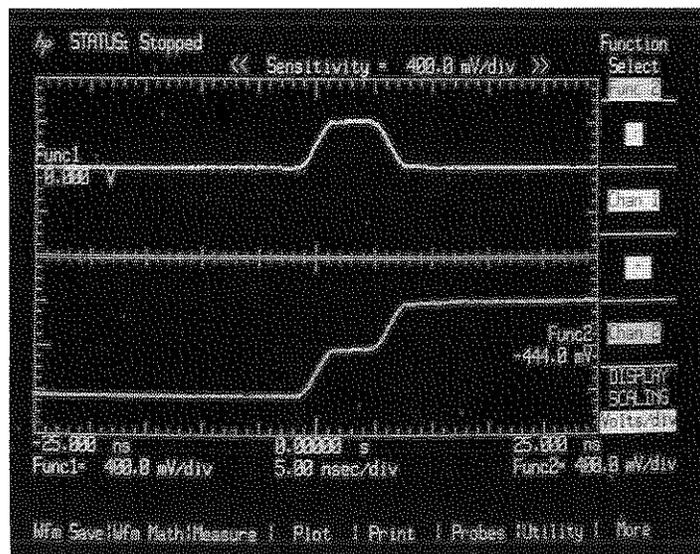

Figure 7-27. Waveform Math Func 1 & 2.
*The display should resemble figure 7-27 with func 1 (chan 1 - chan 2) at the top of the display and func 2 (chan 1 + chan 2) at the bottom. If you have stored a waveform in a waveform memory, mem 1-4 could have been used as an operand as well as chan 1 or 2.*